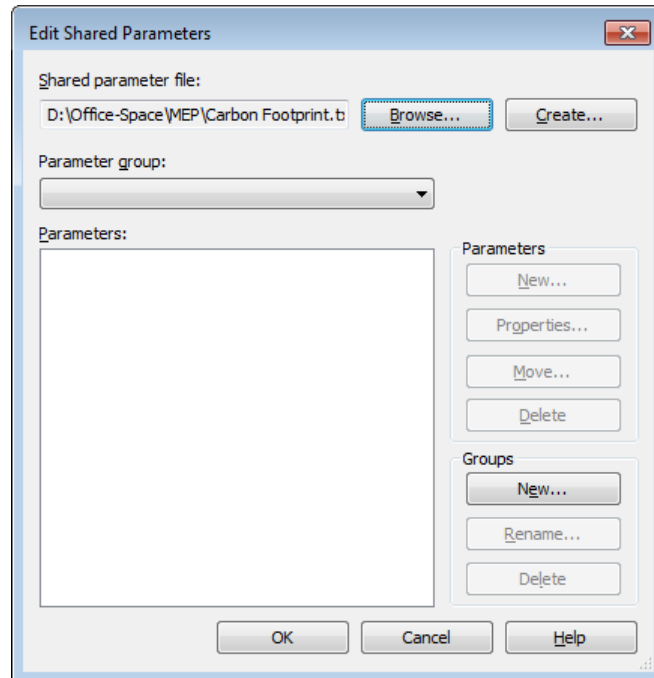

Figure 2-31 The Edit Shared Parameters dialog box
- e. Create the Project Parameter, refer to Figure 2-31.
1. Choose the **Shared Parameters** tool from the **Settings** panel of the **Manage** tab; the **Edit Shared Parameters** dialog box is displayed, refer to Figure 2-31.